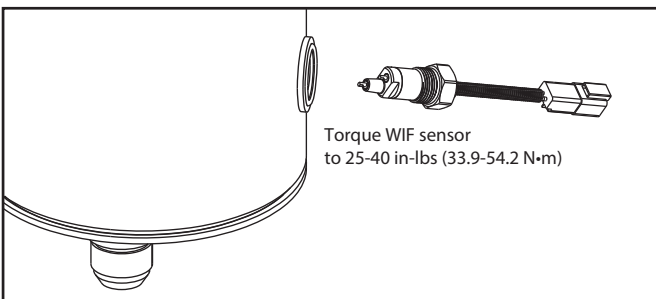

Figure 2 - WIF Probe Installation
Install the WIF Probe (SP1428) into the side of the Sea Pro®. (See Figure 2, which references a single unit. For a duplex unit, use WIF Probe SP1641 and follow the same procedure.)
3. Torque to 25-40 in-lbs (2.82-4.52 N·m). (See Figure 2)